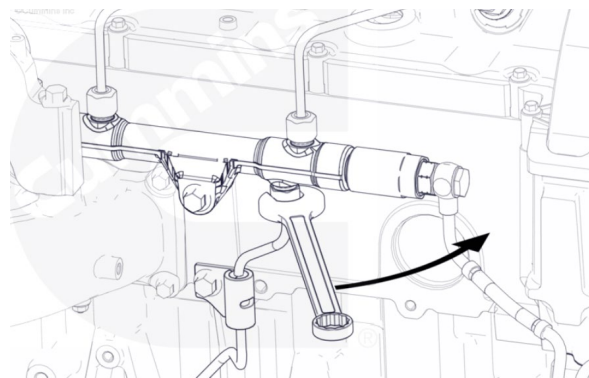

Figure 2: Location for relief of fuel pressure in the system
1. Before starting the removal and installation of the Injector Supply Lines, loosen the pump to rail line at the rail to vent the fuel pressure. Keep your hand clear of the line when loosening the fuel rail nut. See Figure 2